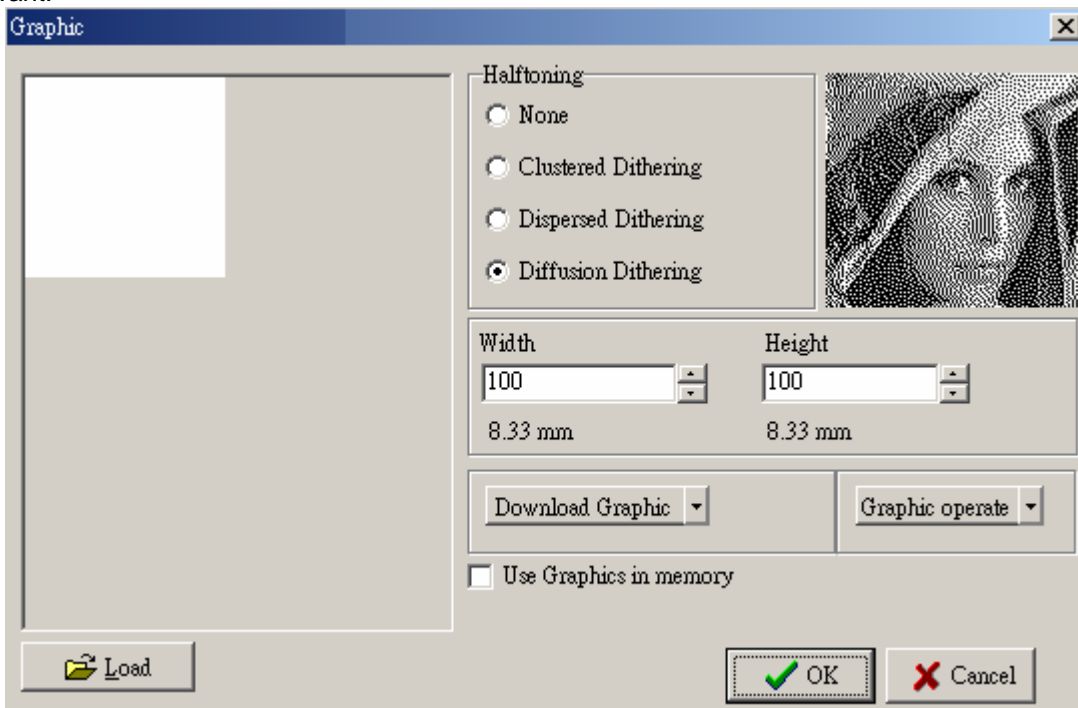

Fig.12.1
1. Click  (refer to the Fig.12.1)